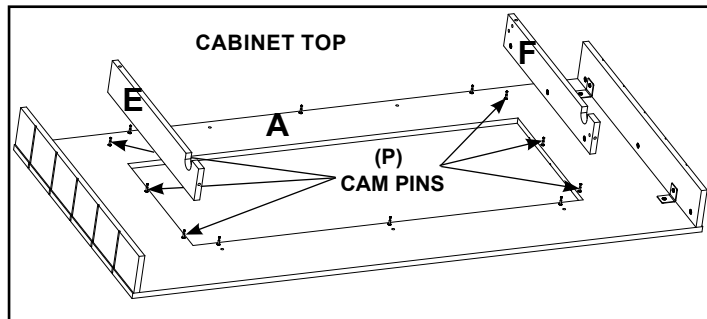

Figure 11
- Align parts "E" and "F" onto the three (3) Cam Pins (P) installed on each side of part "A". See Figure 11.